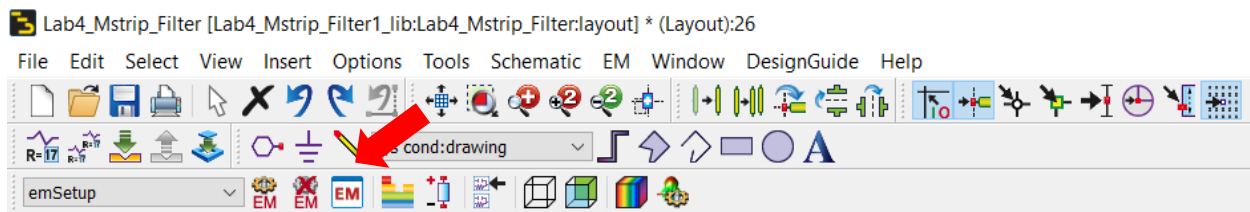

Figure 9. How to Open EM Simulation
2. Click the EM setup form the EM simulation toolbar on the layout page as shown in Figure 9.